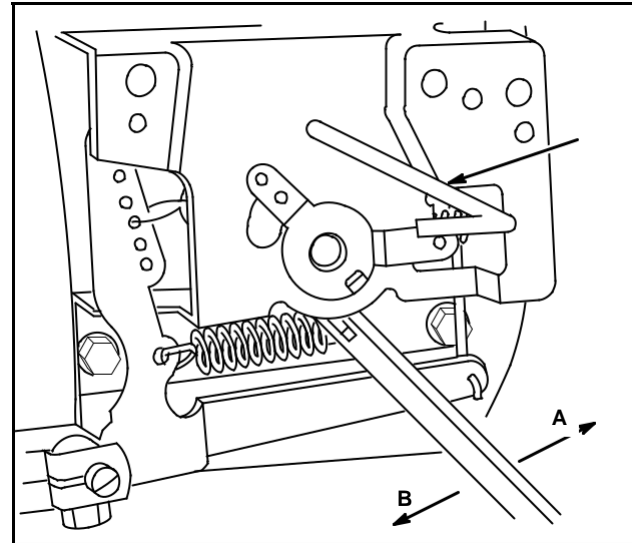

Fig. 34
3. Align holes in control bracket and inside lever with 1/8" (3.18 mm) diameter rod. Governor speed control lever of equipment should be in "IDLE" position, Fig. 34.